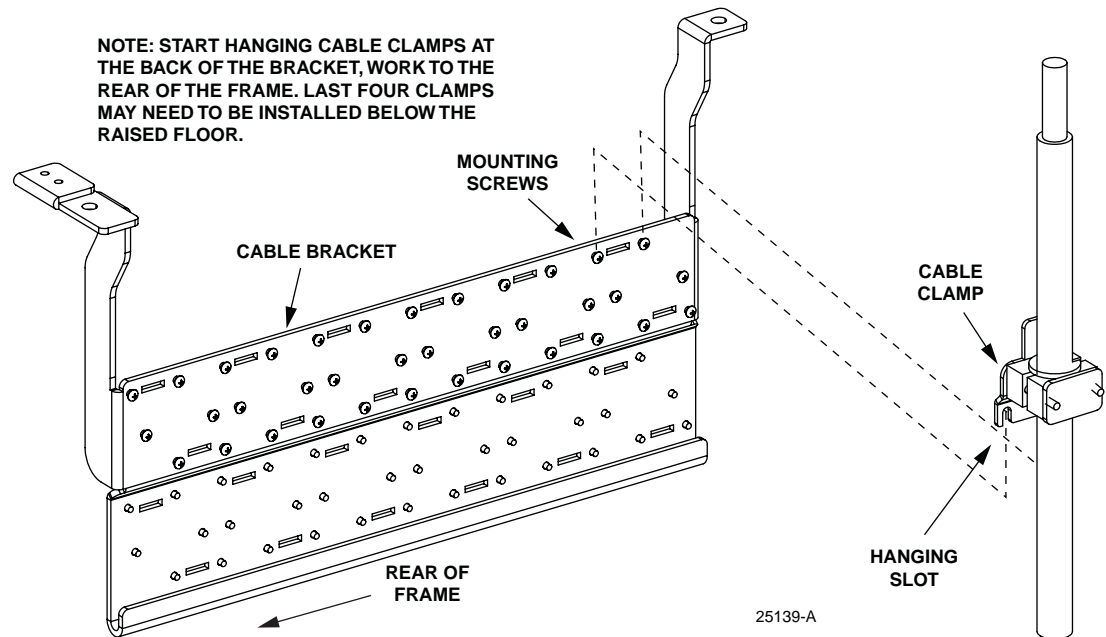
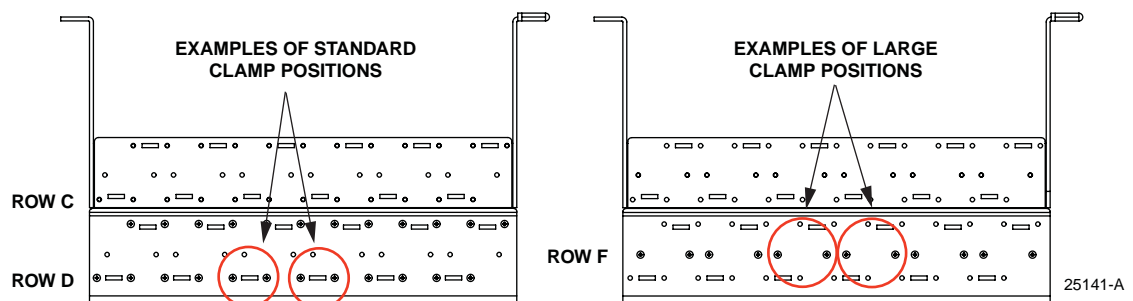

Figure 44. Hanging Cable Clamps on Bracket
Figure 45. Correct Placement of Cable Clamps
10. Beginning at the back of the cable clamp bracket (in the middle of the frame), hang the cable clamps by positioning the hanging slots on the mounting screws, as shown in Figure 44. Be sure to position the clamps on the correct mounting screws as indicated in Figure 45. Work from the back of the bracket towards the rear of the frame. After hanging a cable clamp on the mounting screws, tighten the mounting screws until secure.